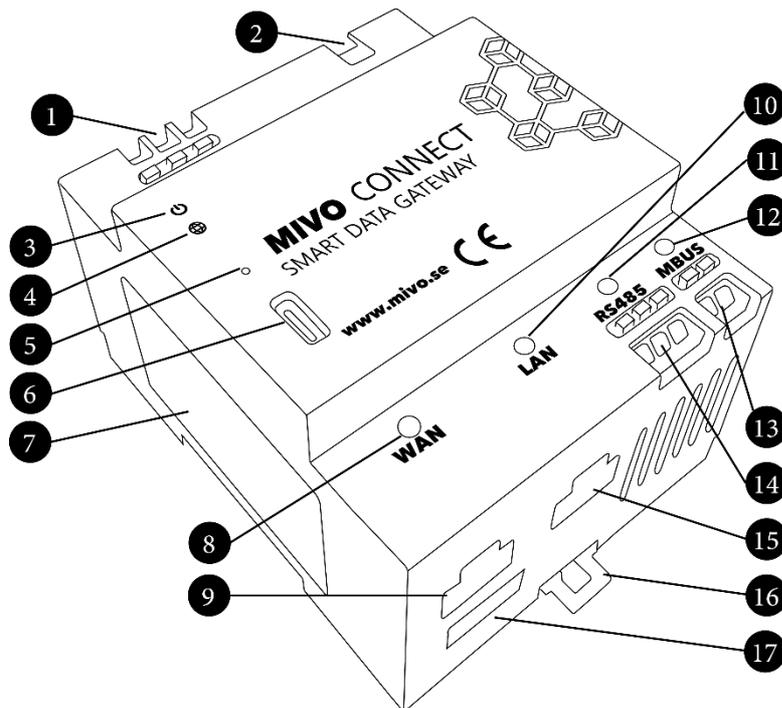

Figure 2 Product description
The product must be mounted vertically with terminal connector 1 and 2 in figure 2 facing upwards, no other rotation is allowed.
2. Tilt the product down until the bottom latch snaps in place, if necessary use a small screwdriver to pull the latch(item 16 in Figure 2) down.
2. Pull the bottom latch (item 16 in Figure 2) down with a screwdriver and tilt the product upwards.
The device must only be used on 230V 50Hz ac mains protected by a fuse of 16A or less, a fuse of 6A is recommended. Power should be connected to the three power terminals (item 1 in Figure 2) on the top left side of the device.
This connection is intended for internet connectivity and uses a standard RJ-45 ethernet connector (item 9 in Figure 2) . For heavy industrial use Cat. 5 FTP or better should be used, otherwise Cat. 5 UTP or better is sufficient. If link is found the green LED should light up (item 8 in Figure 2) .
This connection is intended for local connections and uses a standard RJ-45 ethernet connector (item 15 in Figure 2) . By default, this port will work as a router, providing internet connectivity for all devices connected to this port. For heavy industrial use Cat. 5 FTP or better should be used, otherwise Cat5 UTP or better is sufficient. If link is found the green LED should light up (item 10 in Figure 2).
2. Push down the orange buttons for the rs485 terminals (item 14 in Figure 2) with a screwdriver, insert the cable with a 45° angle and release the button.
2. Push down the orange buttons for the MBUS terminals (item 13 in Figure 2) with a screwdriver, insert any of the two cables with a 45° angle and release the button.